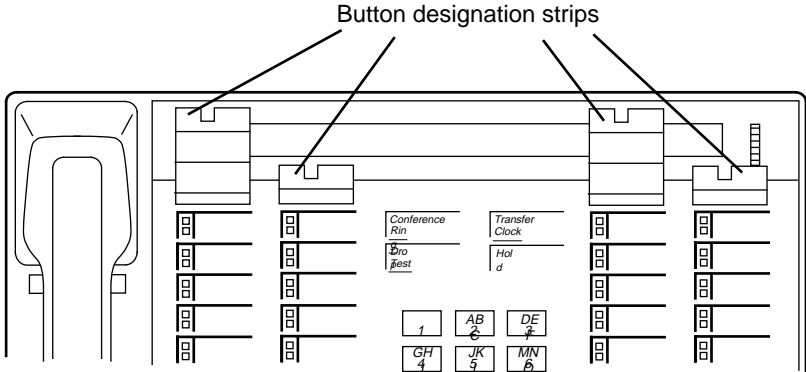

FIGURE 6-13. 7507: Inserting Button Designation Strips
- 6. Insert each of the button designation strips into the appropriate slots on the 7507 terminal. See Figure 6-13.